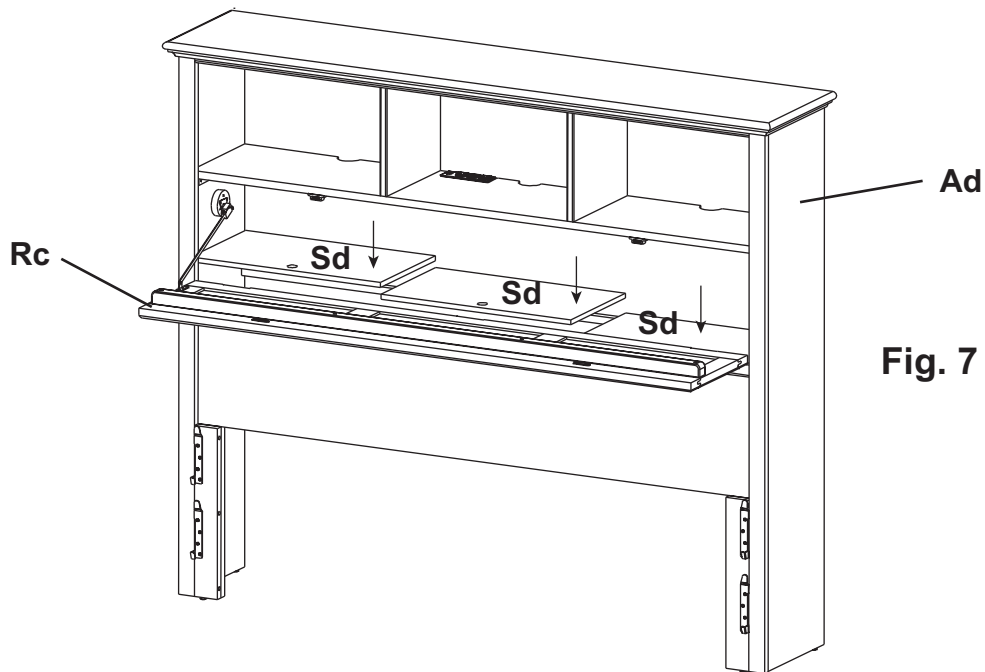

Fig. 7
7. Unwrap the False Bottoms (Sd) and place them on top of the rails in the Headboard Assembly (Ad). Make sure the finger holes face forward as shown in Figure 7.